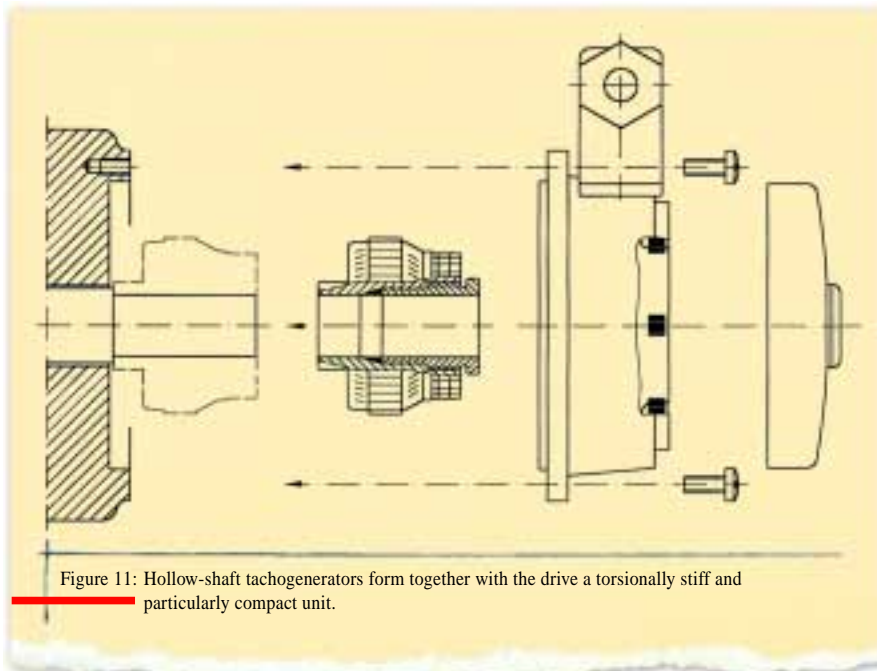

Figure 11: Hollow-shaft tachogenerators form together with the drive a torsionally stiff and particularly compact unit.
They are characterized by a very small delay time (armature circuit time constant)  $\tau_A$  (➔ Page 11), small armature moment of inertia and direct mounting on the driving machine without further intermediate components (➔ Figures 11 and 12).
**Hollow-shaft tachogenerators** are delivered in two parts: as the armature (rotor) with the associated stator (with fitted brush holder). They are initially ready to use once assembled with the drive unit. This must therefore have a centering shoulder and a free shaft end (➔ Figure 11). It is important that the dimensions and tolerances for the centering shoulder and shaft end specified in the data sheets are observed to maintain speed measurement accuracy.